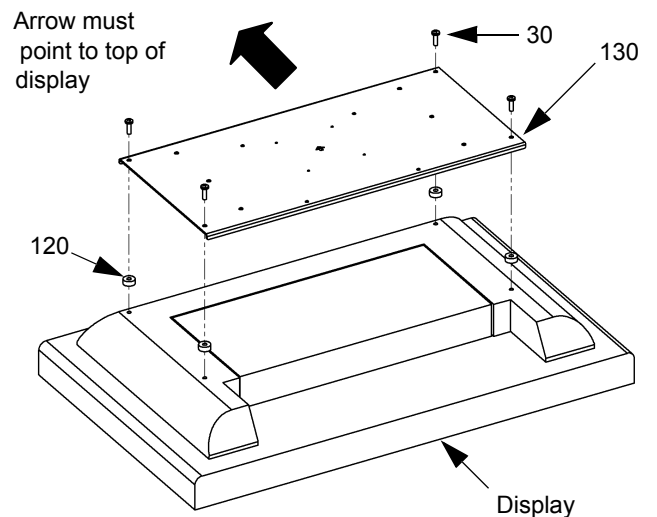

Figure 9: Attach 550mm x 235mm Interface Adapter
1. Select four M6 x 20mm Phillips pan head screws (30) and four retaining spacers (120).
3. Install four M6 x 20mm screw (30) into the four mounting holes on the interface bracket (130). (see Figure 9)
4. Slide four retaining spacers (120) onto four M6 x 20mm screws (30).